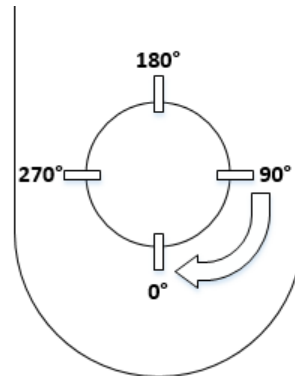

Figure 2
Step 2: Next mark the location you are at on the sprocket. Rotate to 90°, 180°, and 270° making sure at each point you are still able to slide the chain side to side and not be pulled away from the sprocket at any point. (Figure 2)